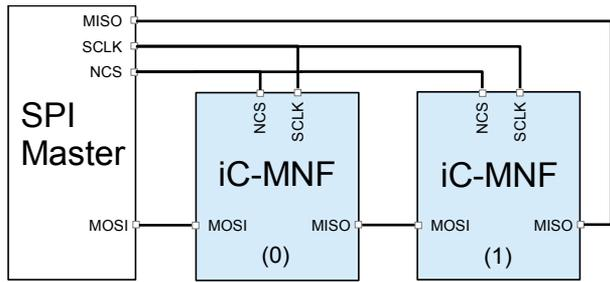

Figure 29: Example configuration with 2 Slaves (daisy chain)
**Note:** If two or more devices are connected to a chain (see Figure 29), the master can determine the number of the connected register and sensor data channels with the command **ACTIVATE**. To achieve this, the master can transmit a high level after the opcode, which is repeated at MISO after the number of register/sensor data channels (see Figure 28).
An example for a daisy chain wiring of 2 SPI slaves is given in Figure 29. In order to do register communication (**Read REGISTER (single)**, **Write REGISTER (single)**, **Read REGISTER (cont.) delayed**, **Write REGISTER (cont.)**, **REGISTER status/data**) with e.g., slave (1) the register communication has to be enabled explicitly for this slave and disabled for slave (0) with command **ACTIVATE** and parameter **RACTIVE**.